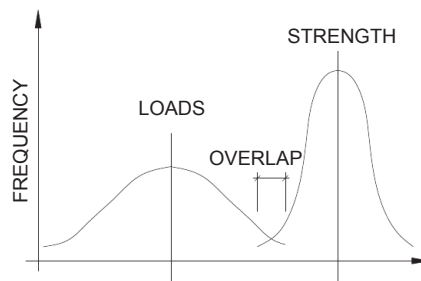

Figure 2
- 6 A structural member has been properly designed to meet all applicable load and strength criteria. Can it be said that this member will never fail? Hint: See Figure 2.
- 6 No, but it can be said that the risk of failure is acceptable by common standards. As illustrated in Figure 2 (on the previous page), the statistical distributions of load and strength will always overlap by some amount. Our design methods reduce this statistical overlap so that the risk of failure is acceptably low.